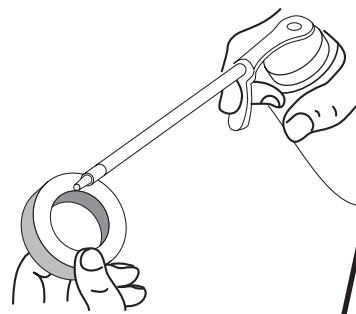

Fig. 26
4. Apply enough clean SAE 30 oil to lightly coat the filter (Fig. 26).